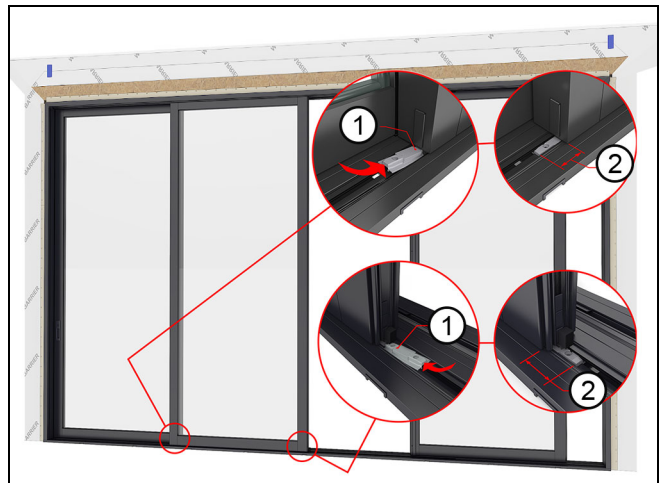
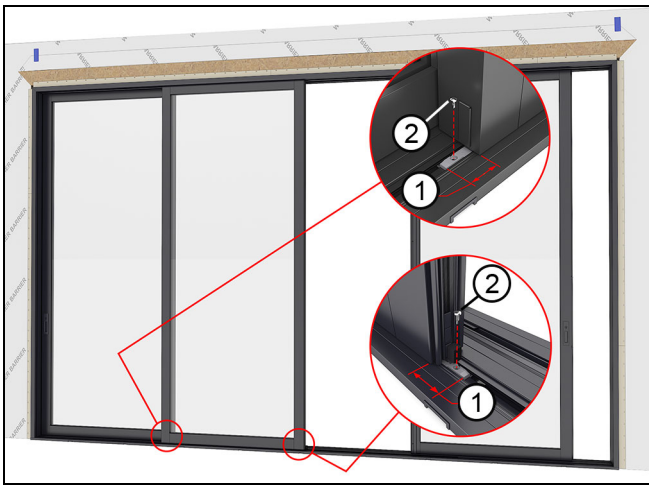

Figure 168 XOOX
Figure 169 XOOX
10. On both sides of the (J) panel, snap the lower stationary brackets onto sill, then slide underneath the stationary panel until fully seated. Each bracket should stick out approximately 2 1/4" (57) from panel when fully seated. Fasten the brackets with #8 x 1/2" self drilling screws. See Figure 168 and Figure 169.